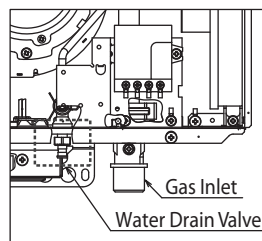

Figure 2. Water Drain Valve on Condensing Models
*Note: For NRC/NCC/841/842 Series condensing models, carefully unscrew the water drain valve from the bottom of the water heater near the gas inlet to flush any residual solution from the system (see Figure 2). The system will be under pressure and the drain valve will only require a couple of turns to allow sufficient flow from the drain. Place a bucket under the unit and flush for about 10 seconds. Attempting to remove the drain valve completely could result in an excessive leak.*